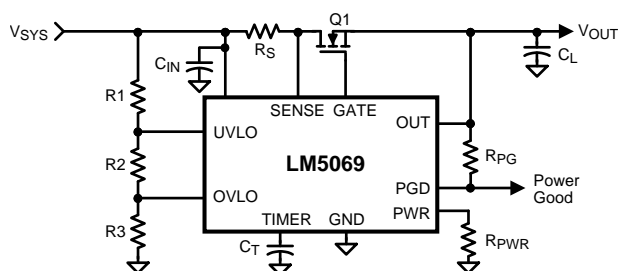
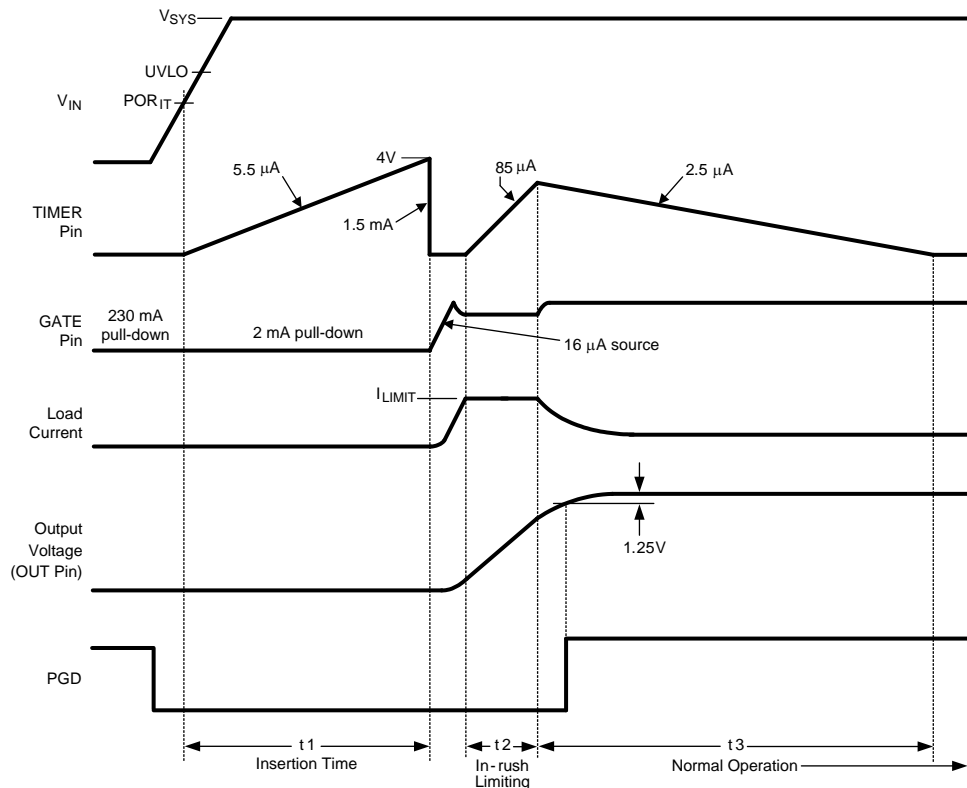

Figure 22. Basic Application Circuit
Figure 24. Power Up Sequence (Current Limit only)
The VIN operating range of the LM5069 is +9V to +80V, with a transient capability to +100V. Referring to the Block Diagram and Figure 22 and Figure 24, as the voltage at VIN initially increases, the external N-channel MOSFET (Q1) is held off by an internal 230 mA pull-down current at the GATE pin. The strong pull-down current at the GATE pin prevents an inadvertent turn-on as the MOSFET's gate-to-drain (Miller) capacitance is charged. Additionally, the TIMER pin is initially held at ground. When the VIN voltage reaches the POR_{IT} threshold (7.6V) the insertion time begins. During the insertion time, the capacitor at the TIMER pin (C_T) is charged by a 5.5 μA current source, and Q1 is held off by a 2 mA pull-down current at the GATE pin regardless of the VIN voltage. The insertion time ends when the TIMER pin voltage reaches 4.0V. C_T is then quickly discharged by an internal 1.5 mA pull-down current. After the insertion time, the LM5069 control circuitry is enabled when VIN reaches the POR_{EN} threshold (8.4V). The GATE pin then switches on Q1 when V_{SYS} exceeds the UVLO threshold (UVLO pin >2.5V). If V_{SYS} is above the UVLO threshold at the end of the insertion time, Q1 switches on at that time. The GATE pin charge pump sources 16 μA to charge Q1's gate capacitance. The maximum gate-to-source voltage of Q1 is limited by an internal 12V zener diode.
As the voltage at the OUT pin increases, the LM5069 monitors the drain current and power dissipation of MOSFET Q1. In-rush current limiting and/or power limiting circuits actively control the current delivered to the load. During the in-rush limiting interval (t_2 in Figure 24) an internal $85\ \mu\text{A}$ fault timer current source charges C_T . If Q1's power dissipation and the input current reduce below their respective limiting thresholds before the TIMER pin reaches 4.0V the $85\ \mu\text{A}$ current source is switched off, and C_T is discharged by the internal $2.5\ \mu\text{A}$ current sink (t_3 in Figure 24). The in-rush limiting interval is complete when the voltage at the OUT pin increases to within 1.25V of the input voltage (V_{SYS}), and the PGD pin switches high.
A charge pump provides internal bias voltage above the output voltage (OUT pin) to enhance the N-Channel MOSFET's gate. The gate-to-source voltage is limited by an internal 12V zener diode. During normal operating conditions (t_3 in Figure 24) the gate of Q1 is held charged by an internal $16\ \mu\text{A}$ current source to approximately 12V above OUT. If the maximum V_{GS} rating of Q1 is less than 12V, a lower voltage external zener diode must be added between the GATE and OUT pins. The external zener diode must have a forward current rating of at least 250 mA.
During the insertion time (t_1 in Figure 24) the GATE pin is held low by a 2 mA pull-down current. This maintains Q1 in the off-state until the end of t_1 , regardless of the voltage at VIN or UVLO.
Following the insertion time, during t_2 in Figure 24, the gate voltage of Q1 is modulated to keep the current or power dissipation level from exceeding the programmed levels. While in the current or power limiting mode the TIMER pin capacitor is charging. If the current and power limiting cease before the TIMER pin reaches 4V the TIMER pin capacitor then discharges, and the circuit enters normal operation.
The series pass MOSFET (Q1) is enabled when the input supply voltage (V_{SYS}) is within the operating range defined by the programmable under-voltage lockout (UVLO) and over-voltage lock-out (OVLO) levels. Typically the UVLO level at V_{SYS} is set with a resistor divider (R1-R3) as shown in Figure 22. When V_{SYS} is below the UVLO level, the internal 21 μA current source at UVLO is enabled, the current source at OVLO is off, and Q1 is held off by the 2 mA pull-down current at the GATE pin. As V_{SYS} is increased, raising the voltage at UVLO above 2.5V, the 21 μA current source at UVLO is switched off, increasing the voltage at UVLO, providing hysteresis for this threshold. With the UVLO pin above 2.5V, Q1 is switched on by the 16 μA current source at the GATE pin if the insertion time delay has expired (Figure 24). See the Applications Section for a procedure to calculate the values of the threshold setting resistors (R1-R3). The minimum possible UVLO level at V_{SYS} can be set by connecting the UVLO pin to VIN. In this case Q1 is enabled when the VIN voltage reaches the POR_{EN} threshold.
(REFER TO Figure 22)
A) Insertion Delay - Upon applying the system voltage (V_{SYS}) to the circuit, the external MOSFET (Q1) is held off during the insertion time (t_1 in Figure 24) to allow ringing and transients at V_{SYS} to settle. Since each backplane's response to a circuit card plug-in is unique, the worst case settling time must be determined for each application. The insertion time starts when V_{IN} reaches the POR_{IT} threshold, at which time the internal $5.5 \mu\text{A}$ current source charges C_T from 0V to 4.0V. The required capacitor value is calculated from: